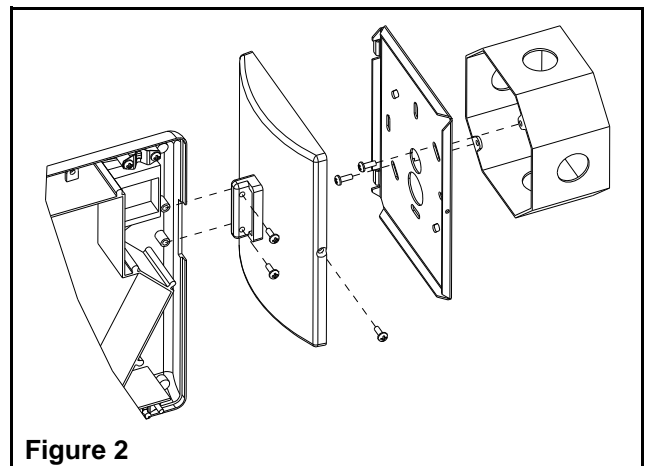

Figure 2
- a. Separate the canopy plate from the canopy assembly and retain the securement screw (see fig. 2).
- f. Secure the canopy to the exit housing by guiding flange on the canopy into the rectangular hole in the side (or top) of the housing. Use the canopy screws to fasten the canopy to the housing (see fig. 2).
- i. Mount the exit/canopy assembly to the canopy mounting plate by guiding the two tabs on the canopy plate into the slots in canopy. Use the securement screw to fasten the canopy to the mounting plate (see fig. 2).